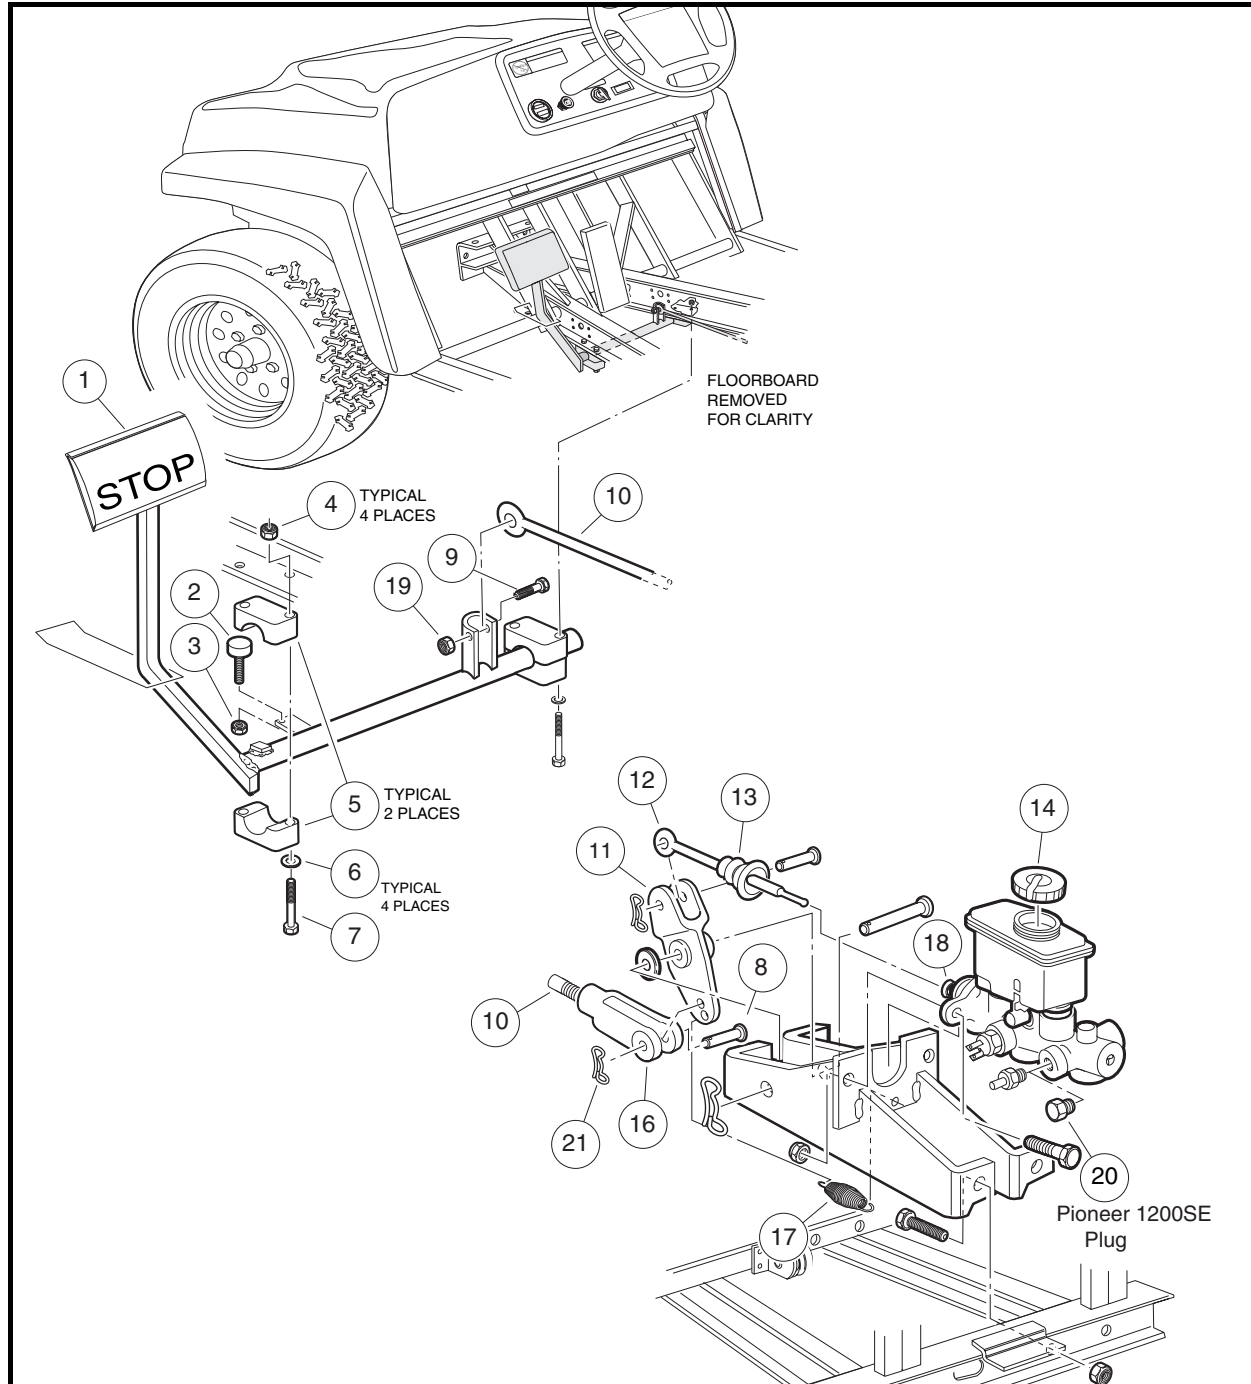
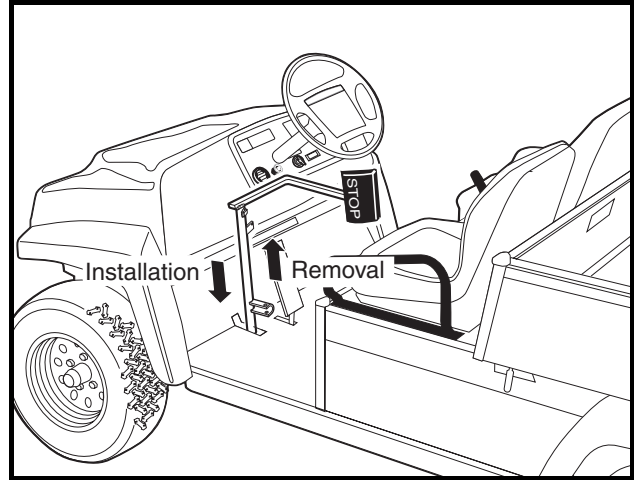
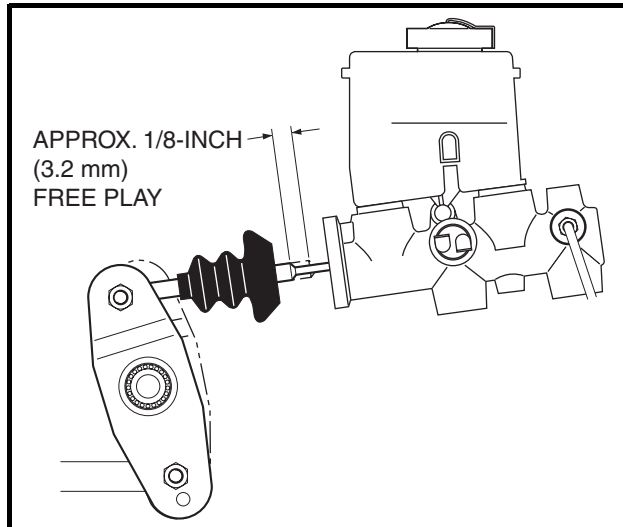

Figure 5-1 Brake Pedal Assembly
Figure 5-3 Brake Pedal Weldment Through Floor
Figure 5-6 Push Rod Free Play
- 5.1. Remove the bolt (9) and nut (19) (Figure 5-1, Page 5-2).
- 5.4. Lift pedal assembly (1) through the floorboard (Figure 5-3, Page 5-3).
1. Insert the brake pedal assembly (1) through the top side of the floorboard (Figure 5-3, Page 5-3) and install the brake pedal stop bumper (2) and nut (3) (Figure 5-1, Page 5-2) but do not tighten.
2. Position and attach brake pedal assembly and mounting blocks (5) with bolts (7), washers (6), and lock-nuts (4). Tighten to 70 in-lb (7.91 N·m) (Figure 5-1, Page 5-2).
3. Attach the equalizer rod (10) to the brake pedal assembly (1). Tighten to 17 in-lb (1.9 N·m).
2. Remove the brake rod clevis pin (8) and bow tie locking pin (21) from the brake push rod clevis (16) and bell crank (11) (**Figure 5-1, Page 5-2**).
8. Adjust the clevis (16) by rotating it so that the clevis pin (8) can be placed through the clevis (16) and the bottom hole in the bell crank assembly (11) (Figure 5-1, Page 5-2). See following NOTE.
9. Attach the bow tie locking pin (21).
10. There should be at least 1/8-inch (3.2 mm) of free play (at the push rod) before the push rod begins to press the master cylinder piston (Figure 5-6, Page 5-4). See following NOTE.
NOTE: Brake pedal free play is the distance the push rod (12) travels before the master cylinder piston (18) is pressed (**Figure 5-1, Page 5-2**). Also see **Figure 5-6, Page 5-4**.